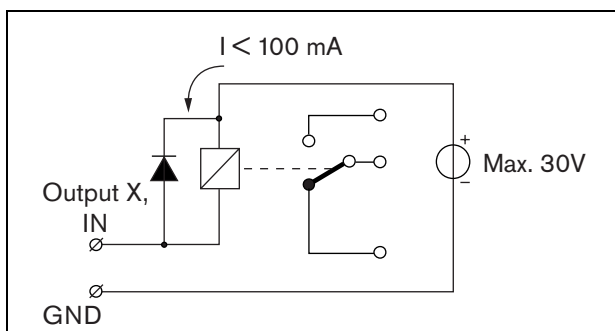

figure 16.6: Externally powered relay
- Externally powered relay. See figure 16.6 for a connection diagram.